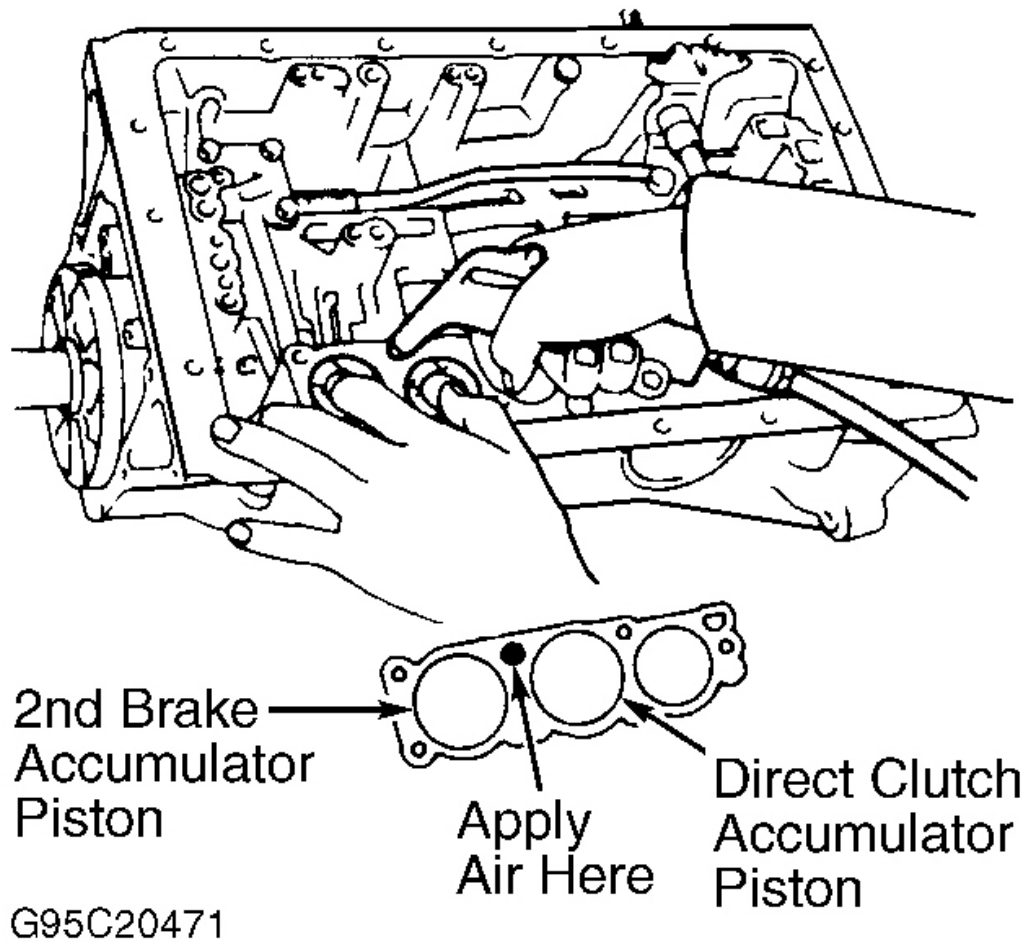

Fig. 12: Removing Direct Clutch (C2) & 2nd Brake (B2) Accumulator Pistons & Springs
4. Place shop cloth over accumulator pistons. Using compressed air, remove accumulator pistons and springs from transmission case. See **Fig. 12** -13. Note location of springs and pistons for reassembly reference.